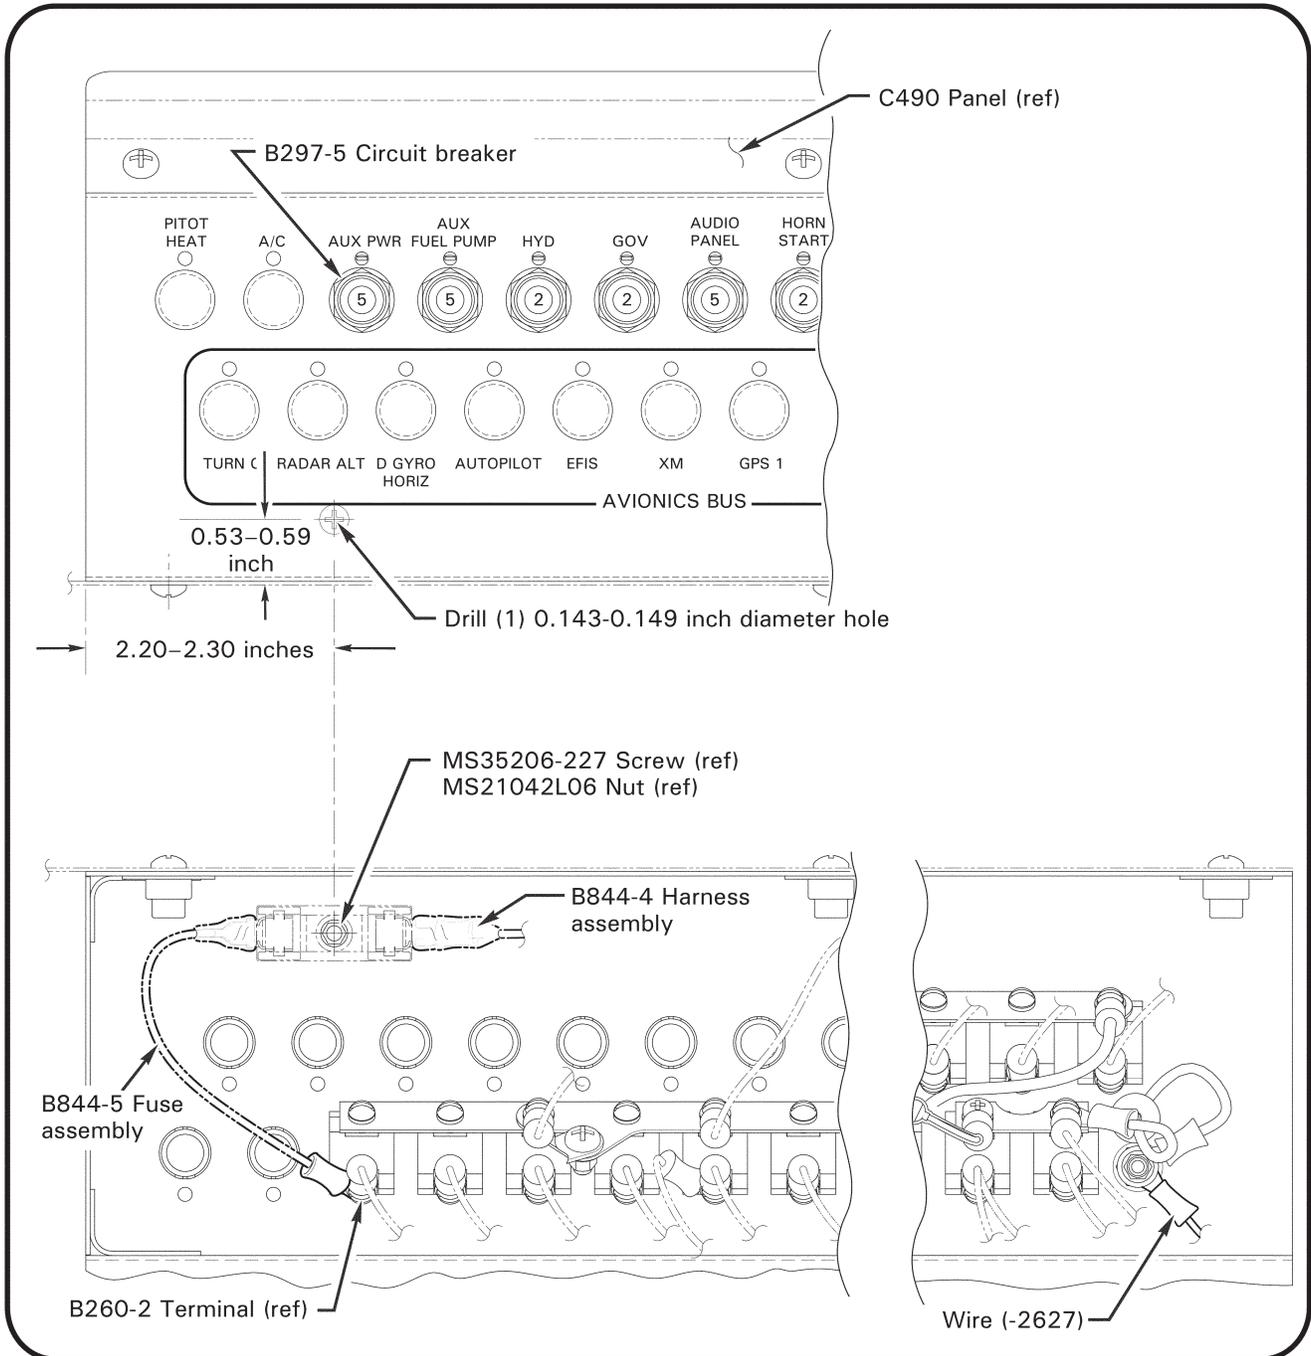

FIGURE 1 KI-254-3C Installation
- a. Refer to Figure 1. Open circuit breaker panel. Lay out location for 0.143–0.149 inch diameter hole on C490 panel as shown. Verify adequate clearance on reverse side, then drill 0.143–0.149 inch diameter hole using drill stop. Deburr hole and clean up debris. Install B844-5 fuse assembly using MS35206-227 screw, NAS1149FN616P washer under screw head, and MS21042L06 nut (parts supplied with fuse assembly).